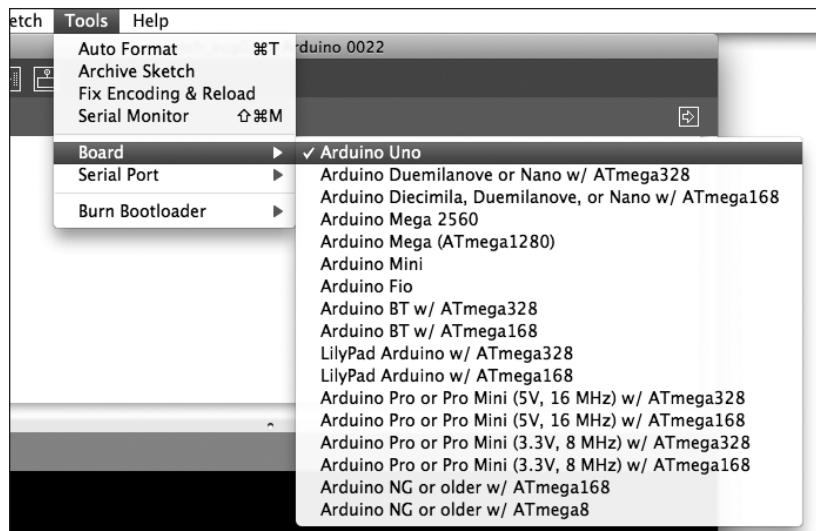

Figure 1-13: Selecting the correct Arduino board
4. The final step is to tell the IDE which Arduino board you have connected. This is crucial, since Arduino boards do differ. For example, if you have the most common board, the Uno, then select **Tools** ▶ **Board** ▶ **Arduino Uno**, as shown in Figure 1-13. The differences in Arduino boards are explained in more detail in Chapter 11.